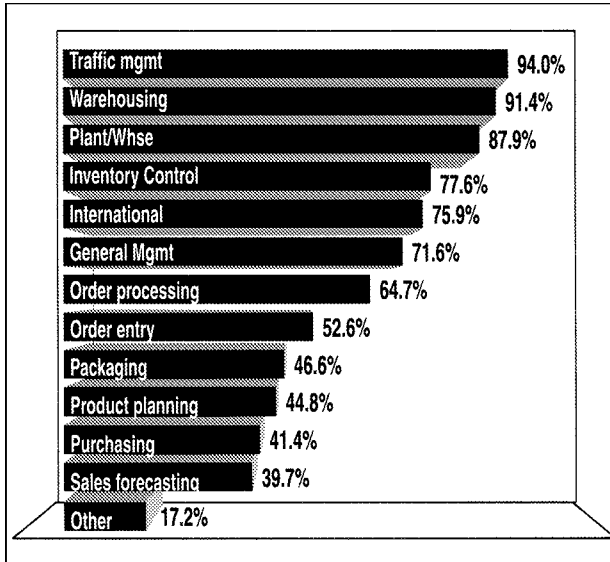

Figure I-5.1 Inventory Control Remains a Significant Responsibility for Logistics Management
- *Inventory management remains a critical area of responsibility for logistics executives.* Almost four out of five (77.6%) respondents mention inventory control as an area of responsibility (see Figure I-5.1). This ranks right behind the more "traditional" responsibilities of traffic management (94.0%), warehousing (91.4%), and plant/warehouse location (87.9%). However, Pohlen notes the steady increase in international logistics and order processing/entry. "International is up significantly over the last five years, reflecting the globalization movement in the U.S.," he observes.